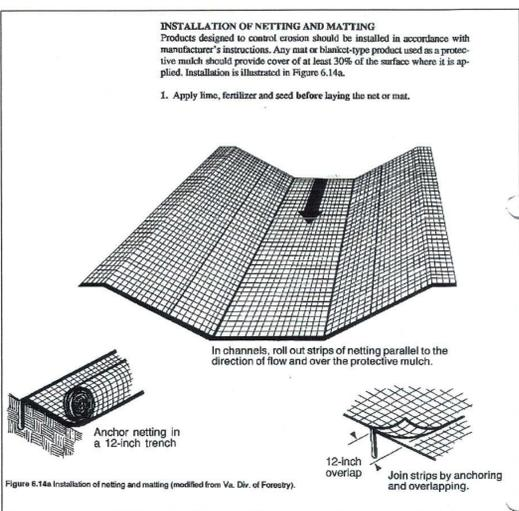

Figure 6.14a Installation of netting and matting (modified from Va. Div. of Forestry).
3. To secure the net, bury the uplope end in a slot or trench no less than 6 inches deep, cover with soil, and tamp firmly as shown in Figure 6.14a. Staple the net every 12 inches across the top end and every 3 ft. around the edges and bottom. Where 2 strips of net are laid side by side, the adjacent edges should be overlapped 3 inches and stapled together. Each strip of netting should also be stapled down the center, every 3 ft. Do not stretch the net when applying staples.
4. To join two strips, cut a trench to anchor the end of the new net. Overlap the end of the previous roll 18 inches, as shown in Figure 6.14a, and staple every 12 inches just below the anchor slot.